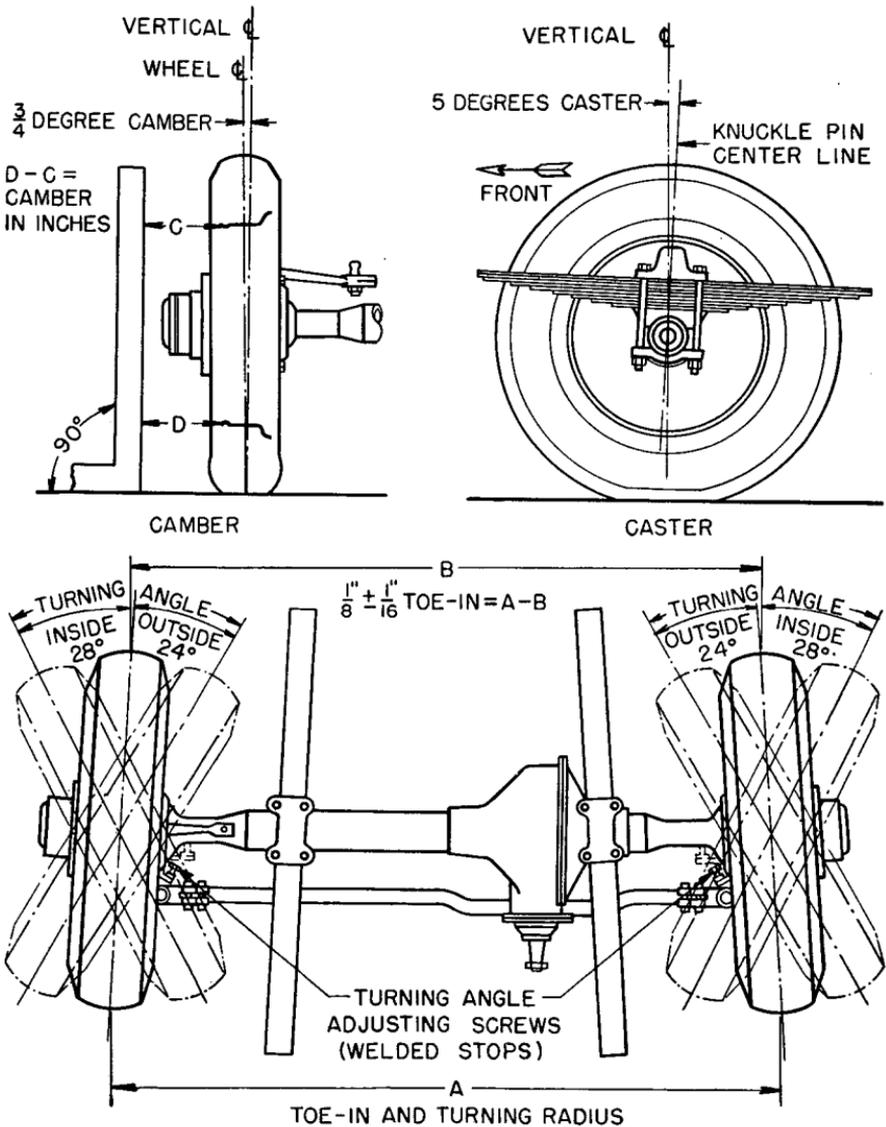

FIGURE 36.—Wheel alinement chart.
*i. Steering tie rod.*—(1) After disassembly, all parts should be washed thoroughly in a grease solvent. Inspect the stud ball and socket joint for scratches, pits, or wearing. Replace any worn or damaged parts.
(2) Replace any soft or weakened springs.
*j. Wheel alinement* (fig. 36).—(1) *Camber*.—This is the amount that the wheels incline at the top from a vertical position. Positive camber is outward inclination of wheels at top; zero camber means no inclination and wheels are held in a vertical plane; and negative or reverse camber is an inward inclination of the wheels at the top.